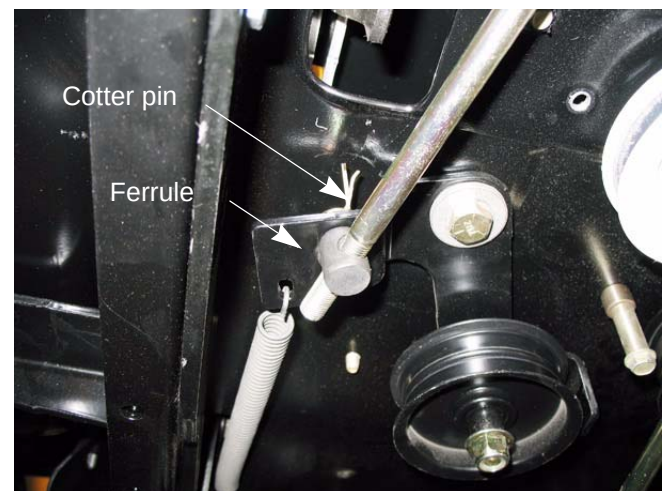

Figure 5.7
3. Remove the cotter pin and washer from the ferrule. See Figure 5.7.